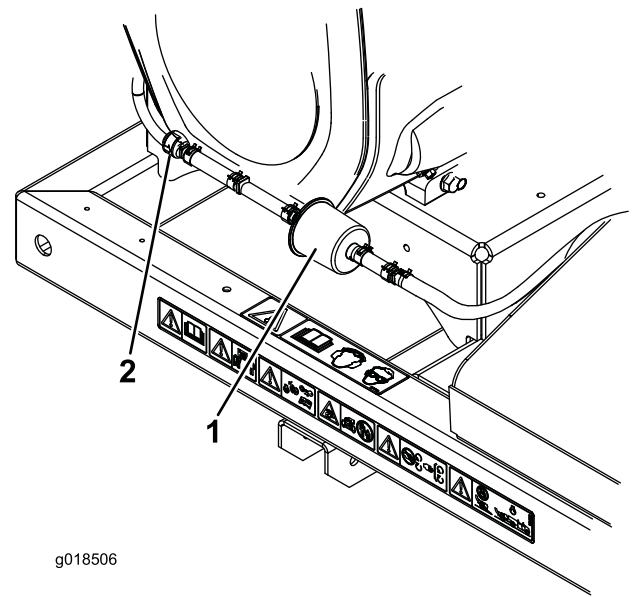

Figure 18
2. Move the spring-type hose clamps on both sides of the carbon canister purge-line filter away from the filter (Figure 18).
3. Remove and discard the carbon filter (Figure 18).
4. Install a new filter into the hose with the arrow on the filter pointing towards the check valve and secure it with the hose clamps (Figure 18).